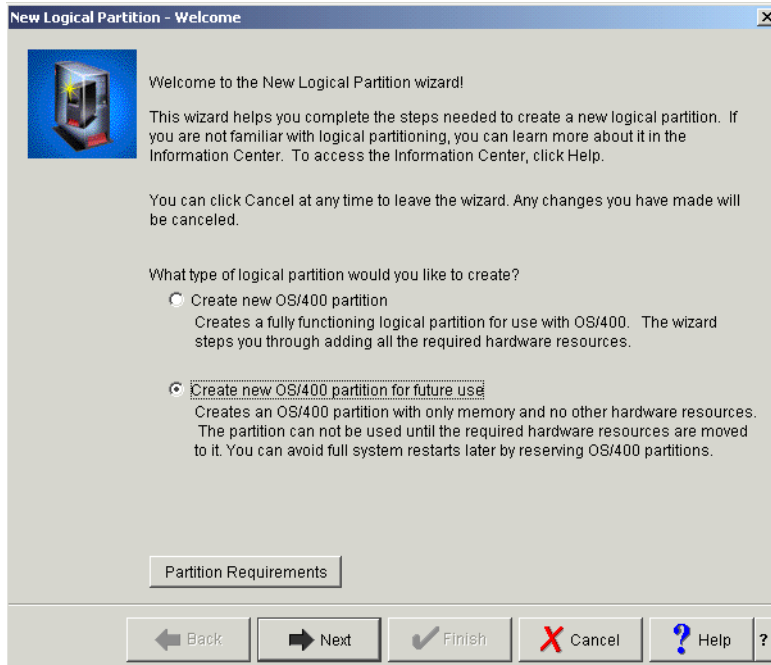

Figure 4-43 Welcome to the New Logical Partition wizard!
6. Right-click **Physical System** and select **New Logical Partition**. This starts the wizard. Next, a Welcome display appears as shown in Figure 4-43. Note the HELP button located on the bottom right-hand corner. This will be available during the entire process. If you need help on any topic, click this button. If you want specific help, click the small question mark (?) to the right of the Help button and then click the part for which you want help.